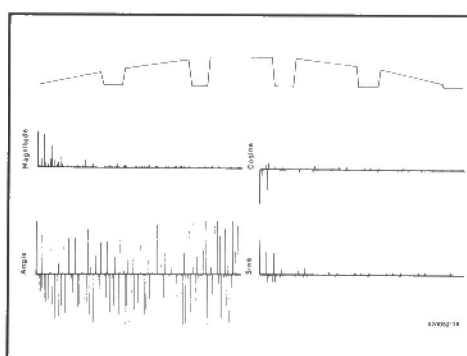

Fig. 7. PWM rectified wave.
*Wave VI* is produced by pulse-width modulation (PWM) techniques to generate a variable DC source. Depending on the rate of on/off switching, the harmonic content rises alarmingly, indicating the importance of well-designed filter elements for a wide range of frequencies. The Fourier analysis is plotted in Fig. 7. As the switching frequency increases, the harmonic level shifts to the higher frequencies which makes it difficult to attenuate them by simple filters.